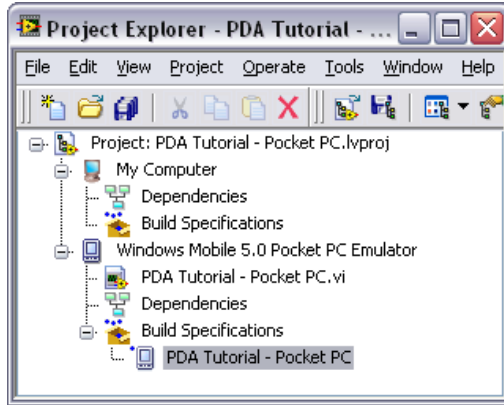

Figure 9. PDA Build Specification in the Project Explorer Window
- Click the **OK** button. The build specification you just created appears in the **Project Explorer** window under the PDA target as shown in Figure 9.